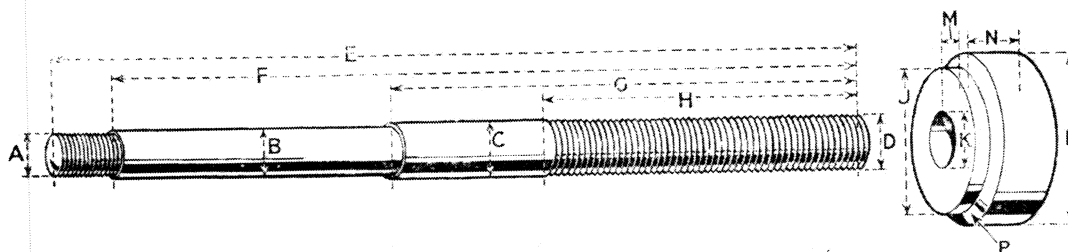

Fig. 2. Tool for drawing in exhaust valve guide.
- Replace the valve guide; for this operation it is definitely advisable to use a suitable tool such as that illustrated at Fig. 2 to prevent the possibility of damage.